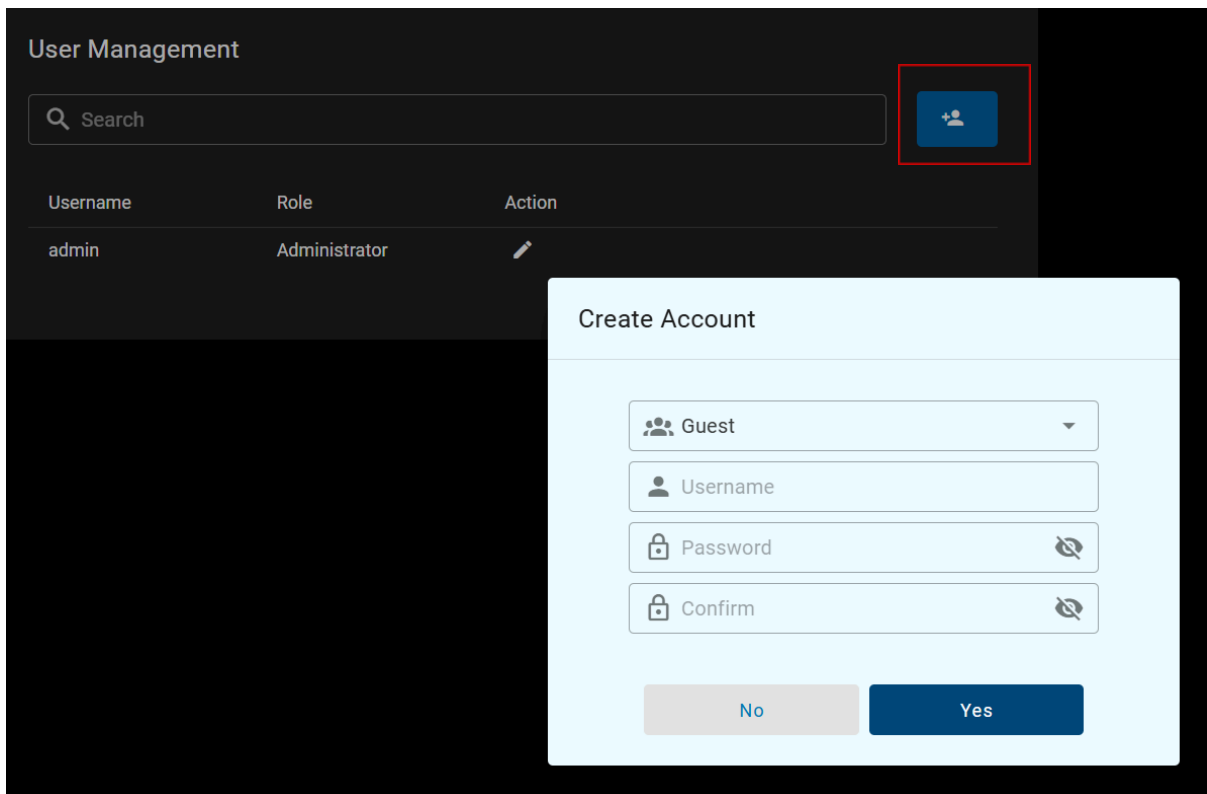

Figure 92. Create Account Dialog Box
- The Create Account dialog box will appear (see Figure 92).